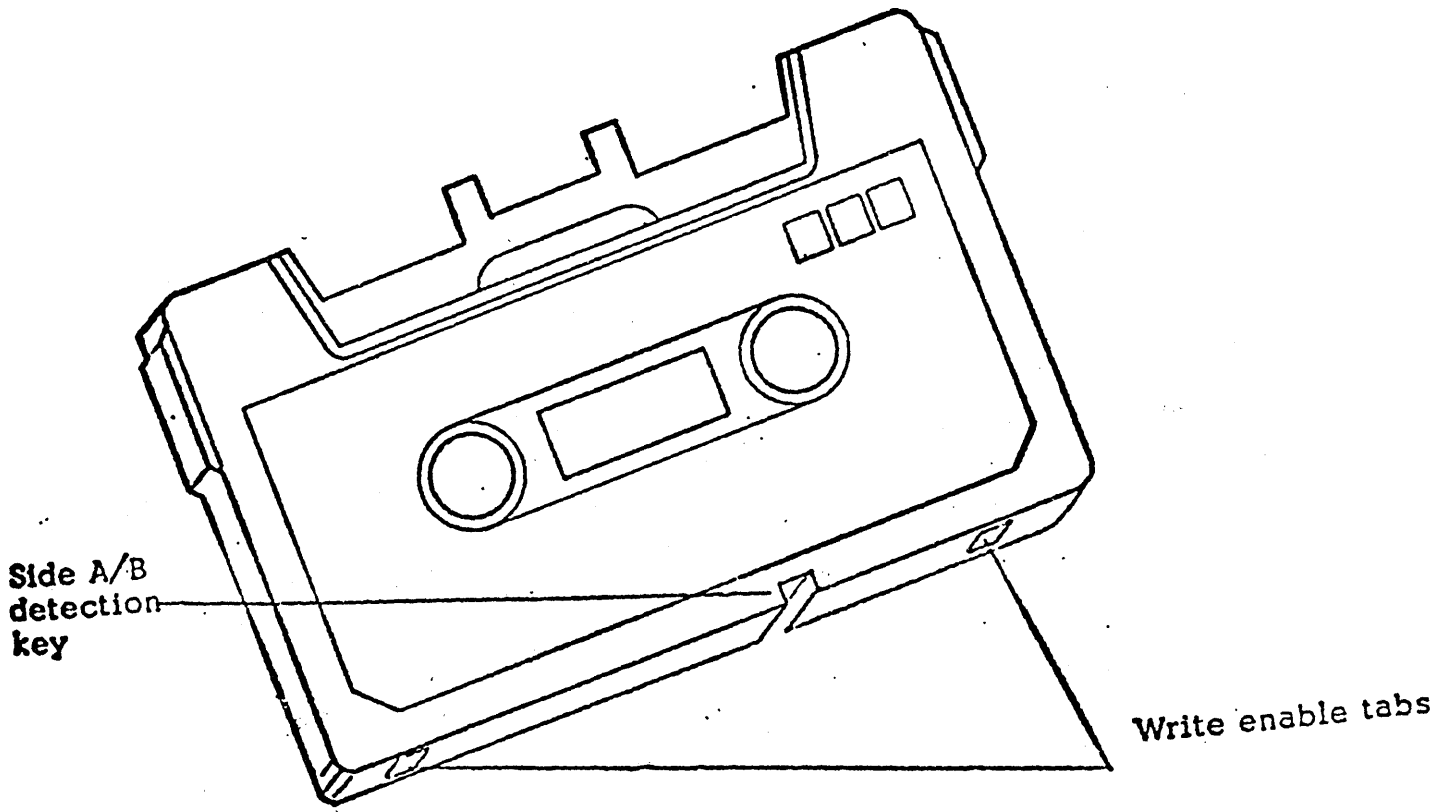

Figure C-1. Cassette Tape Cartridge
3. Observe the cartridge to be loaded. For recording the write enable tabs {Figure C-1} must be installed. For reading tape only, these tabs should be removed.
4. Refer to Figure C-1 and insert the back edge of the cassette cartridge into the transport and press the front edge down until it snaps in place {the exposed side of the cartridge {A or B} will be active side of the tape therefore the cartridge must be installed with the desired side up}.